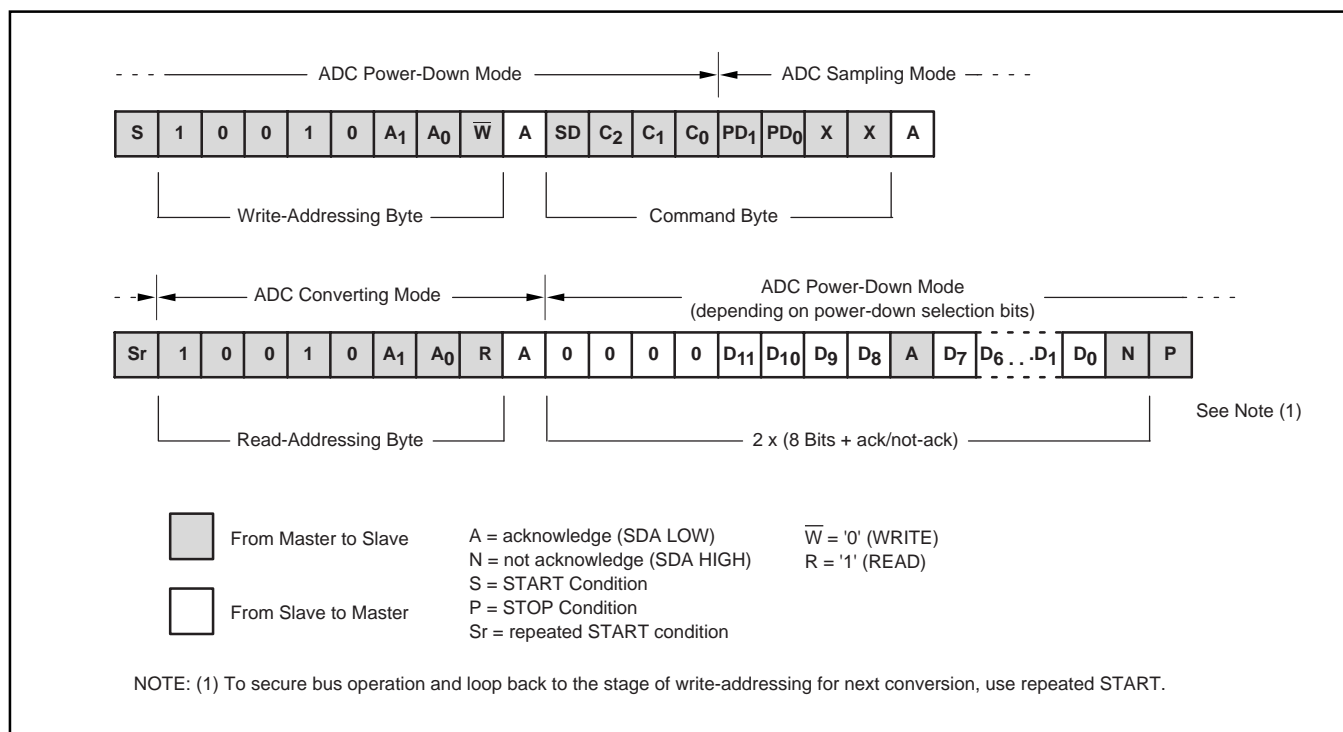
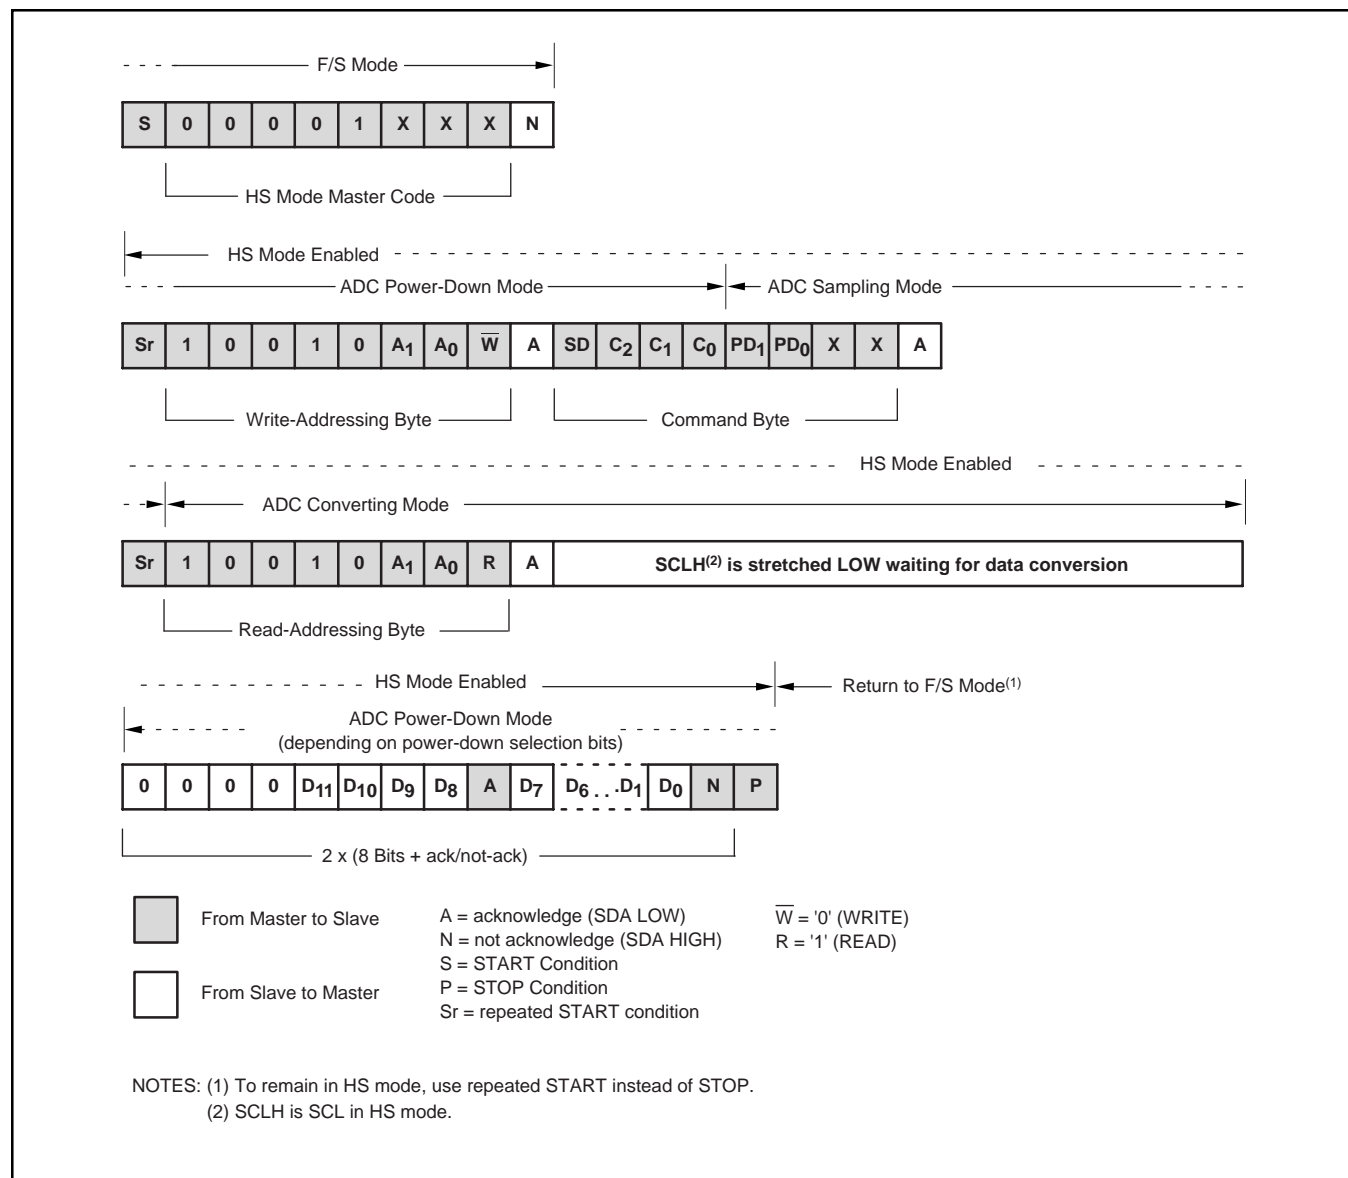

FIGURE 3. Typical Read Sequence in F/S Mode.
FIGURE 4. Typical Read Sequence in HS Mode.
Figure 3 describes the interaction between the master and the slave ADS7828 in Fast or Standard (F/S) mode. At the end of reading conversion data the ADS7828 can be issued a repeated START condition by the master to secure bus operation for subsequent conversions of the A/D converter. This would be the most efficient way to perform continuous conversions.
See Figure 4 for a typical read sequence for HS mode. Included in the read sequence is the shift from F/S to HS modes. It may be desirable to remain in HS mode after reading a conversion; to do this, issue a repeated START instead of a STOP at the end of the read sequence, since a STOP causes the part to return to F/S mode.
- 1) In order to use the internal reference, the PD1 bit of Command Byte must always be set to logic '1' for each sample conversion that is issued by the sequence, as shown in Figure 3.
If using an external reference, PD1 must be set to '0', and the external reference must be settled. The typical sequence in Figure 3 or Figure 4 can then be used.